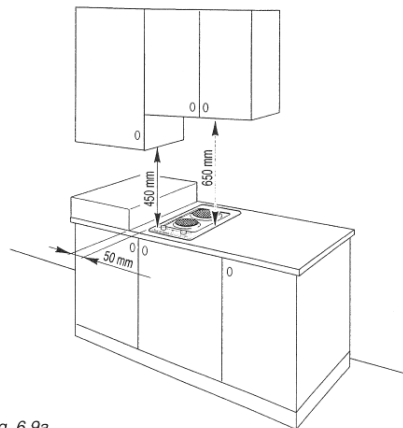

Fig. 6.9a
- There must be a distance of at least 650 mm between the hob and any wall cupboard or extractor hood positioned immediately above (see figs. 6.9a and 6.9b).